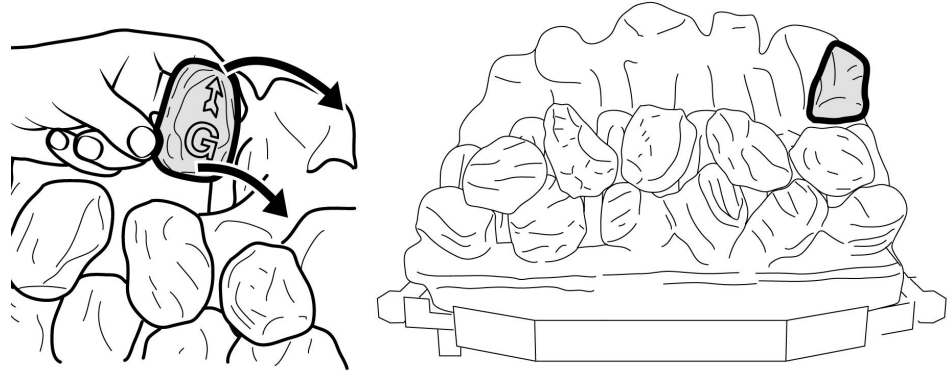

Figure 16. Second row "Coal G"
9. Hold coal 'G' upright with the arrow pointing to the top. Locate coal 'G' as shown in figure 16.